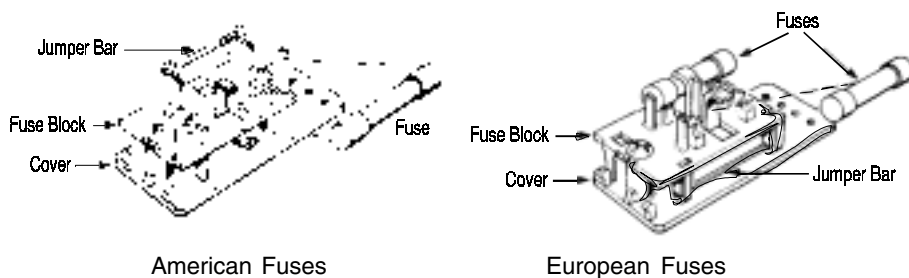

Figure 4-2: Installing Fuses
3. Replace fuse as shown in Figure 4-2.